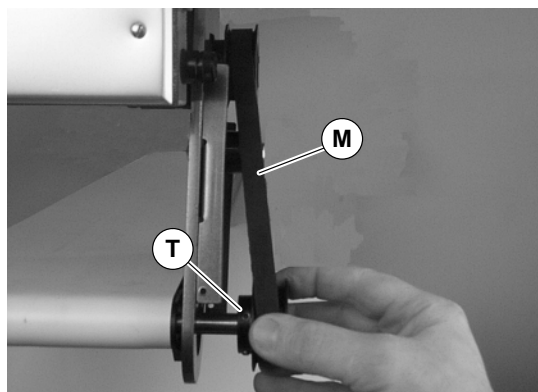

Figure 15
5. Remove timing belt (M of Figure 15).
NOTE: If timing belt does not slide over pulley flange, loosen driven pulley set screws (T of Figure 15) and remove pulley with belt (M). For re-installation, see steps 5 through 8 on page 5.